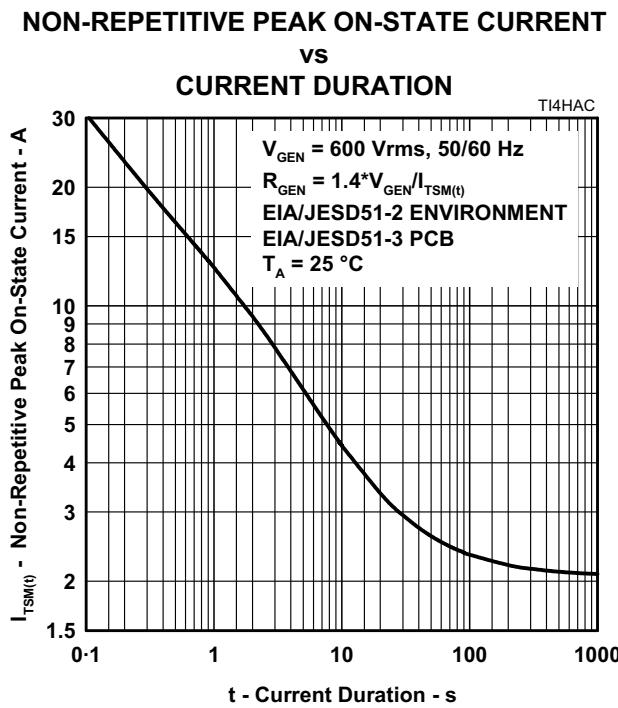

Figure 5.
4. EIA/JESD51-2 environment and EIA/JESD51-3 PCB with standard footprint dimensions connected with 5 A rated printed wiring track widths. See Figure 5 for the current ratings at other durations. Derate current values at  $-0.61\%/\text{ }^\circ\text{C}$  for ambient temperatures above  $25^\circ\text{C}$ .